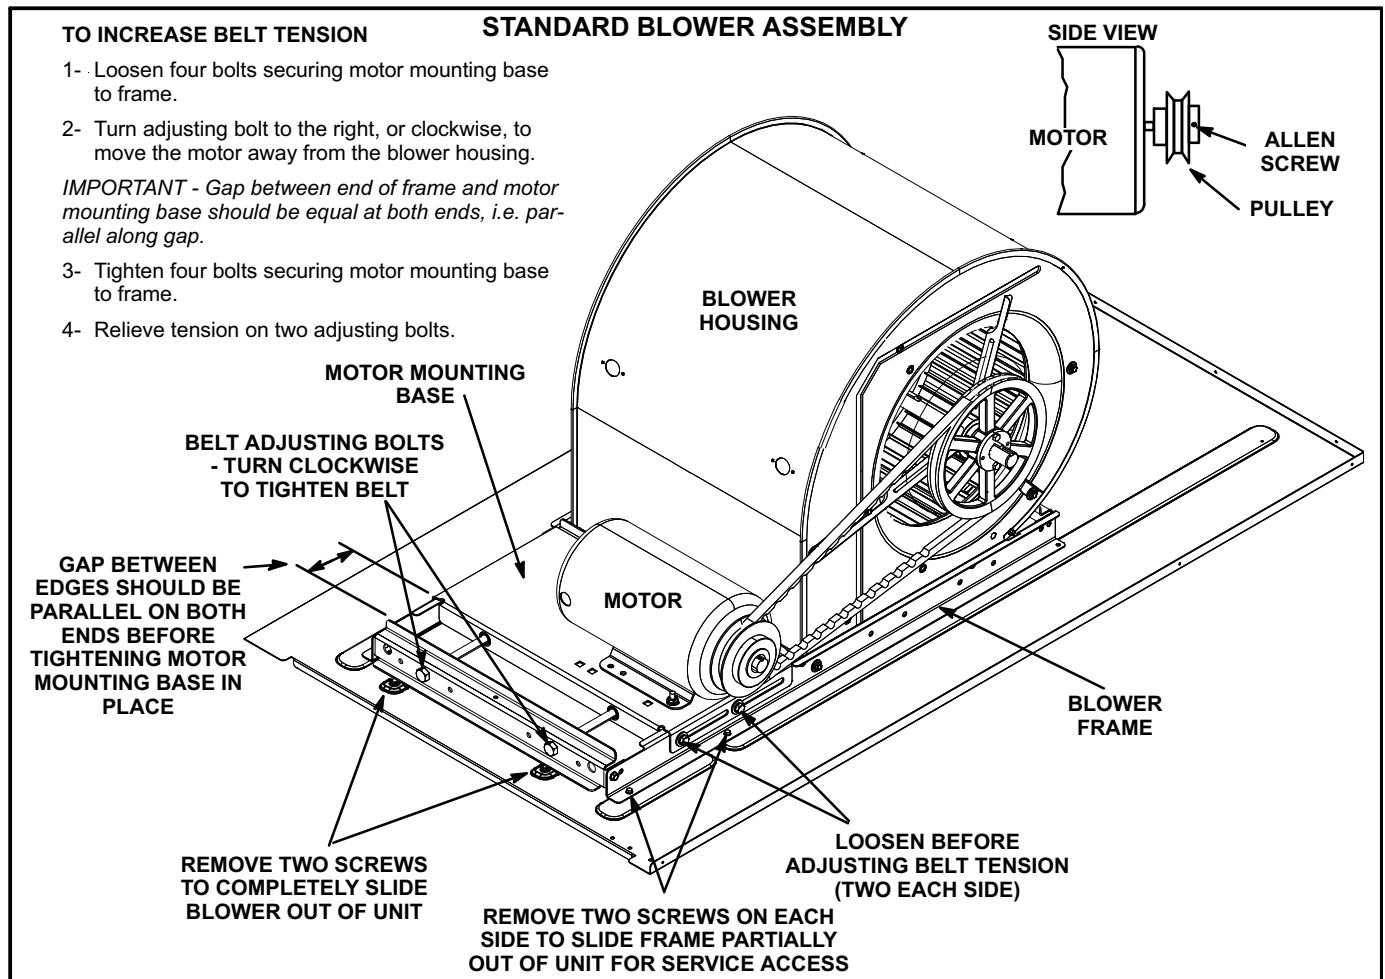

FIGURE 14
The blower assembly is secured to a sliding frame which allows the blower motor to be pulled out of the unit. See figure 14.
- 4- The blower RPM can be adjusted at the motor pulley. Loosen Allen screw and turn adjustable pulley clockwise to increase CFM. Turn counterclockwise to decrease CFM. See figure 14. Do not exceed minimum and maximum number of pulley turns as shown in table 3.
- 1- Loosen four bolts securing motor base to mounting frame. See figure 14.